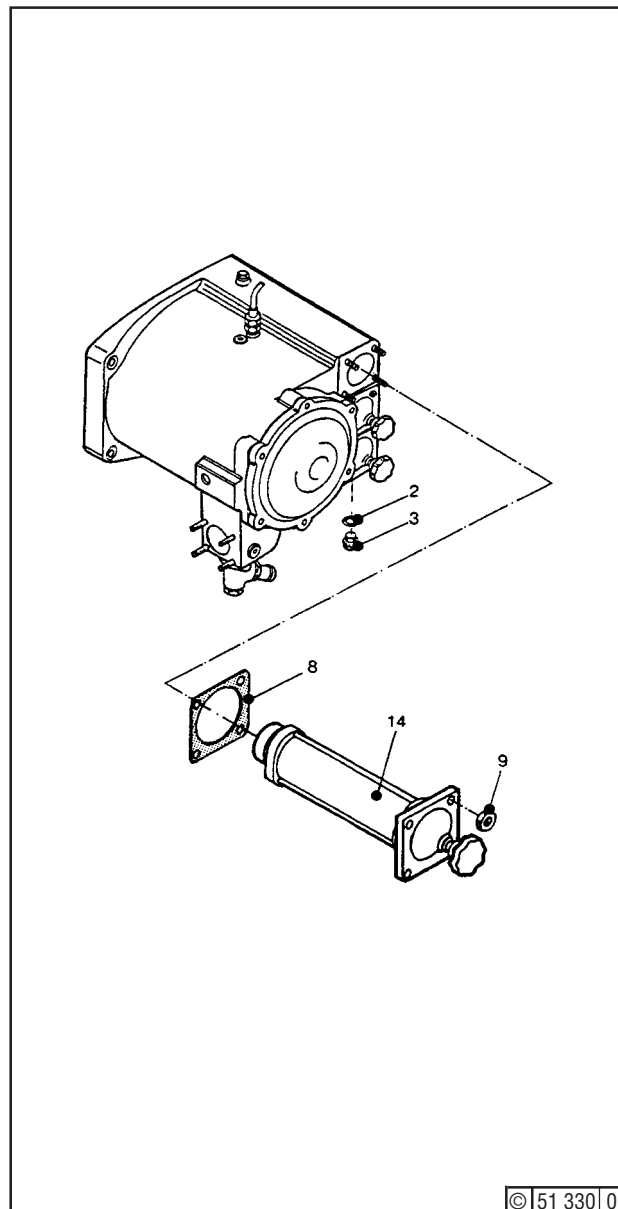

Fig. 2 Filter element
- Undo hex. nuts (9) - Fig. 2 - with withdraw edge filter element (14) from filter body.
- Remove square flange gasket (8).
- Insert drain plug (3) - Fig. 2 - along with washer (2).
- Refit filter element (14) with new flange gasket (8) in filter body.
- Tighten hex.nuts (9).